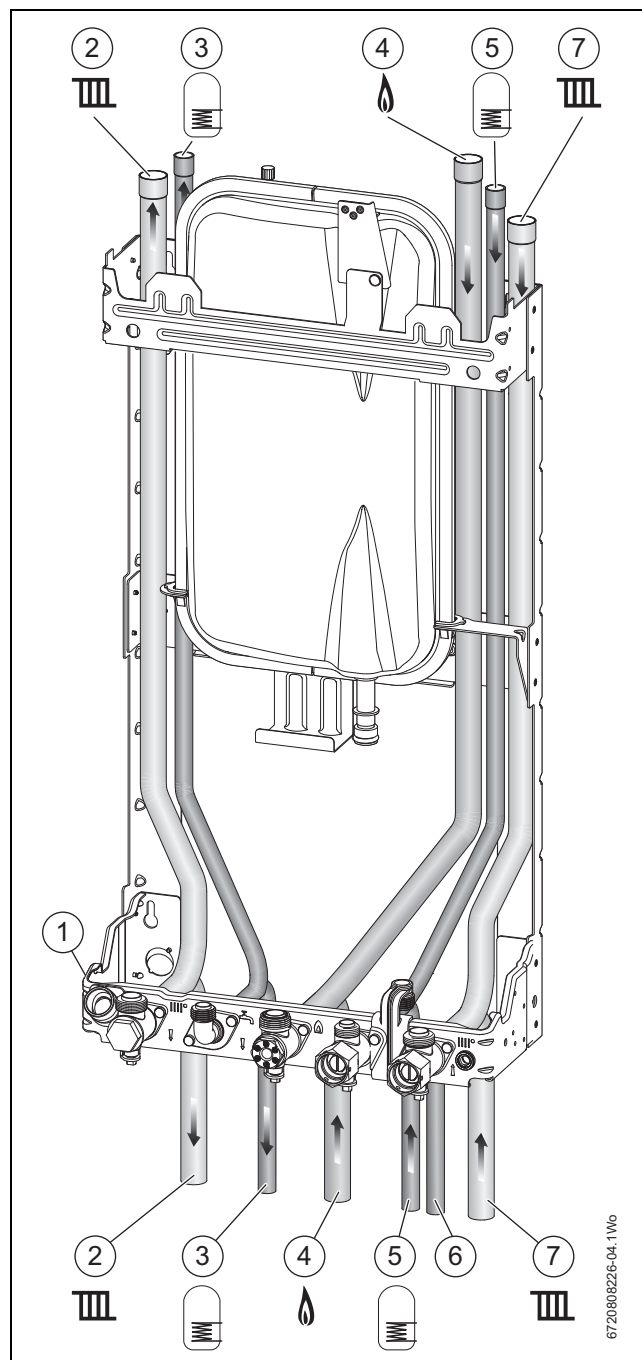

Fig. 6 Plumbing manifold with wall frame
- If the boiler pipes are to be run behind the appliance ensure that the pipes pass either side of the expansion vessel as shown in figure 6.
- Refer to figure 6